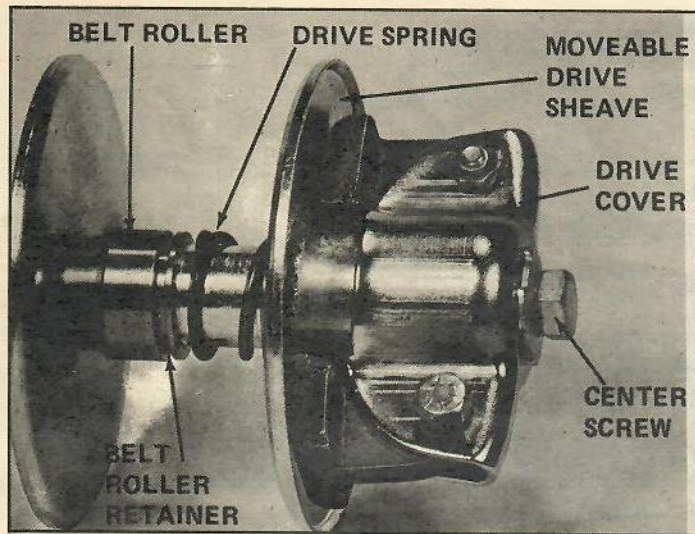

FIG. 5
2. Loosen and remove the center screw, drive cover, moveable drive sheave, drive spring belt roller and belt roller retainer. (Fig. 5)